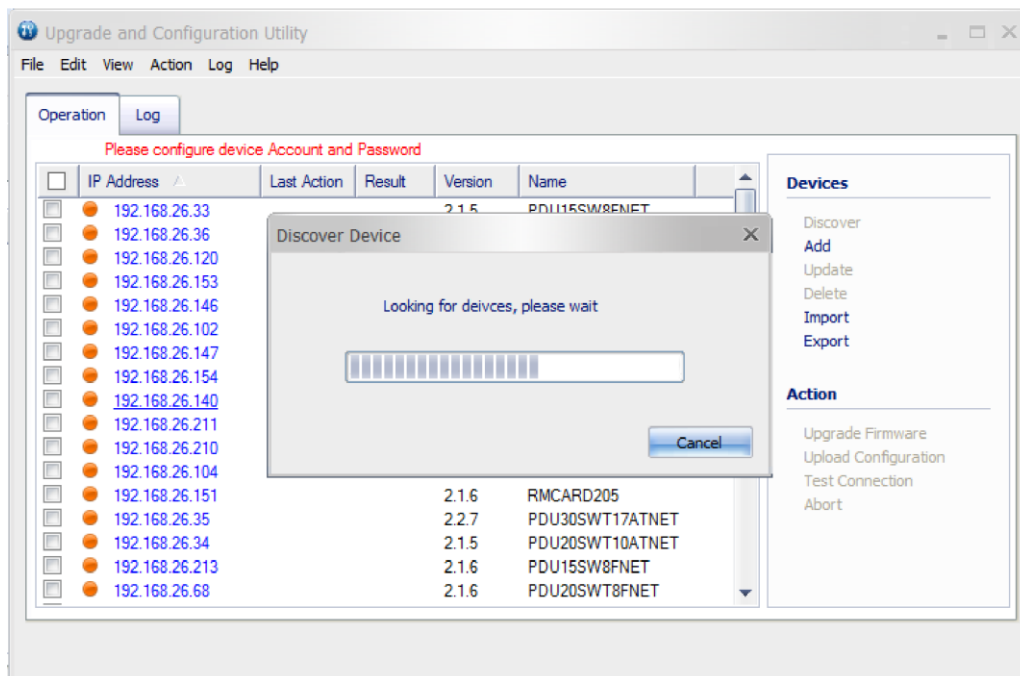

Figure 1.
3. Wait for search to finish (shown in Figure 1.).